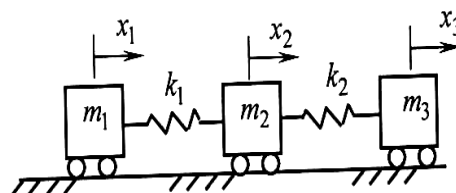

Fig. Q10
- 10. Determine the natural frequencies of the system shown in Fig. Q10 by using Holzer's method. Take $m_1 = 2$ kg, $m_2 = 4$ kg, $m_3 = 2$ kg, $k_1 = 5$ N/m and $k_2 = 10$ N/m. 20